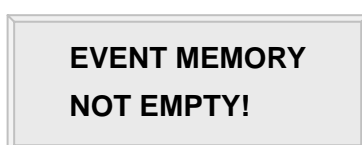

Figure 2.
**NOTE :** Prior to changing the maximum number of cardholders, you must clear the event data from the memory. Because entering the Setup Mode itself generates an event, you must always initialize the event memory prior to changing the maximum ID number setting. For additional information on how to initialize the event memory.( refer to 12.1.9 Event clear). If you attempt to change the setting with some event data still in the memory, the LCD will display "EVENT MEMORY NOT EMPTY" error message. (See figure 2.)